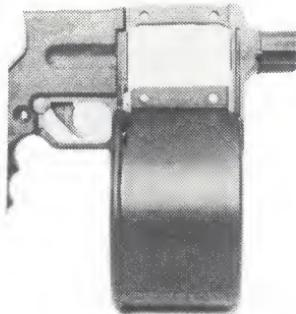

Fig. 14
6. Remove the complete magazine cover and magazine by sliding downwards. (Fig. 14).
3. Slide the complete magazine cover assembly into the frame guide grooves. (Fig. 14).